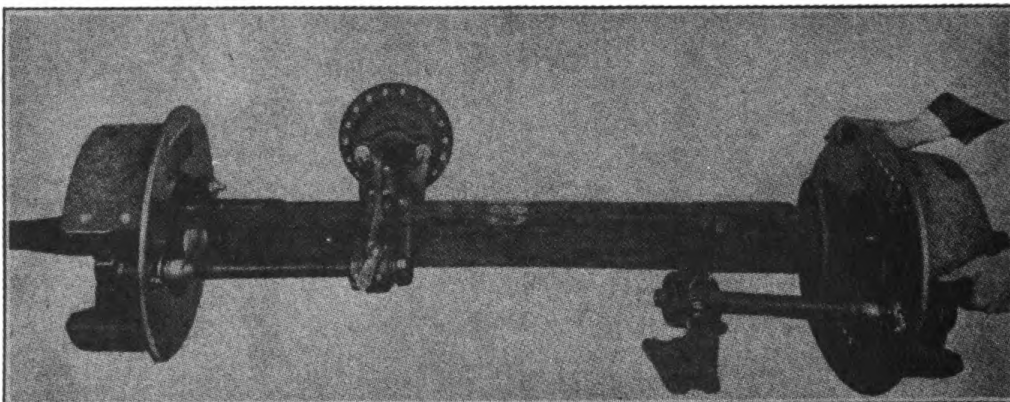

FIGURE 10. REMOVING BRAKE ASSEMBLIES
i. Mark an "L" on the left hand brake assembly and an "R" on the right hand assembly for identification when reassembling. Remove the brake assemblies by taking out the eight bolts holding brake adapter mounting plate to axle flange on both sides (Fig. 10). Lift the complete assembly off axle.